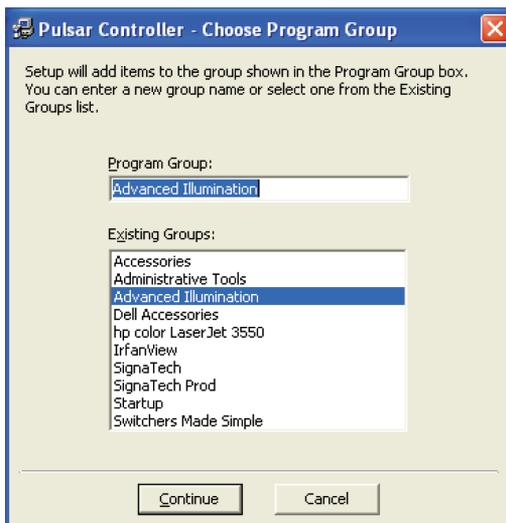

Figure 8: Software installation, program group
5. Select a Program Group or use the default (Advanced Illumination) and click Continue. (See figure 8.)